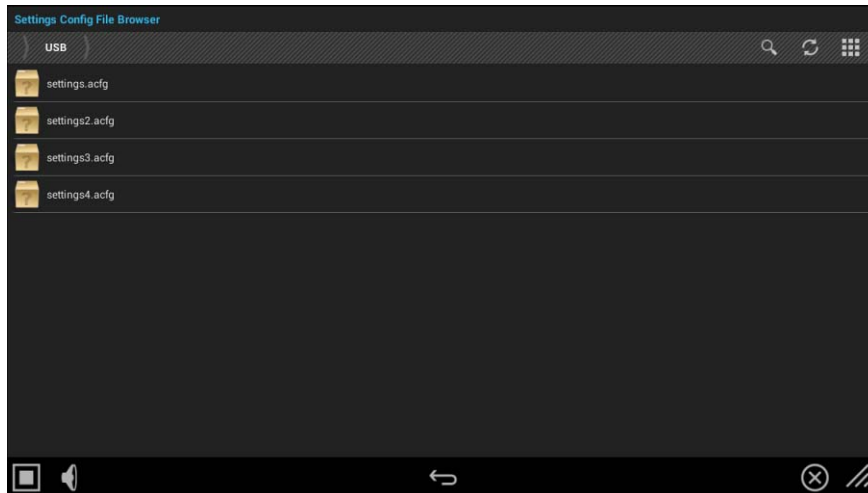

FIG. 114 Setting Config File Browser window
1. In the *Reset and Update* page, press **Load Settings** to open the *Setting Config File Browser* window (FIG. 114):